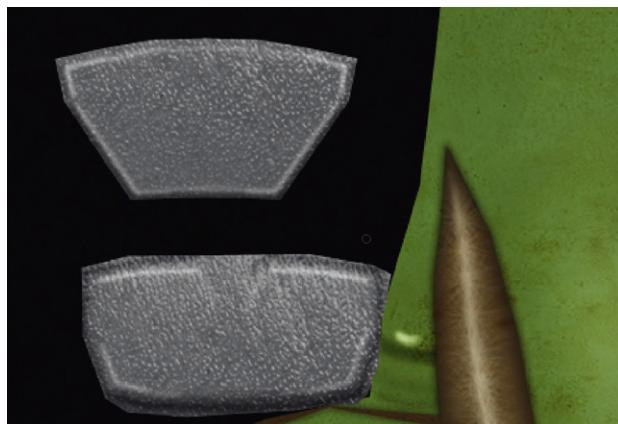

FIG. 6.45 Chest and back plate.
Step 14: Use the texture/Layer Mask technique with a metallic texture for the chest and back plates (Fig. 6.45). Remember the basic idea here is to copy and paste into the scene a base texture, then use the Lasso Tool to select around the area of the UV faces this texture should be applied to and click the Add Layer Mask button in the Layers palette.